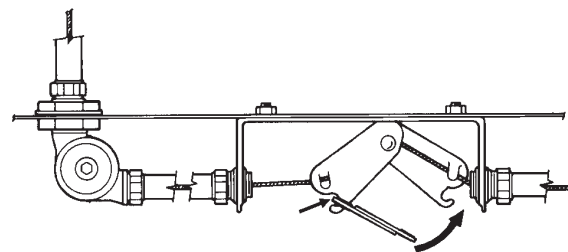

FIGURE 15
8. Hook the fusible link on the ANSUL AUTOMAN release side of the hook assembly, then pull the fusible link to the opposite side and complete the hookup as shown in Figure 15 and 16. The top of the hook assembly must be inside the bracket stiffeners. The hook assembly with the fusible link in place must be located toward the terminal detector side of the bracket.